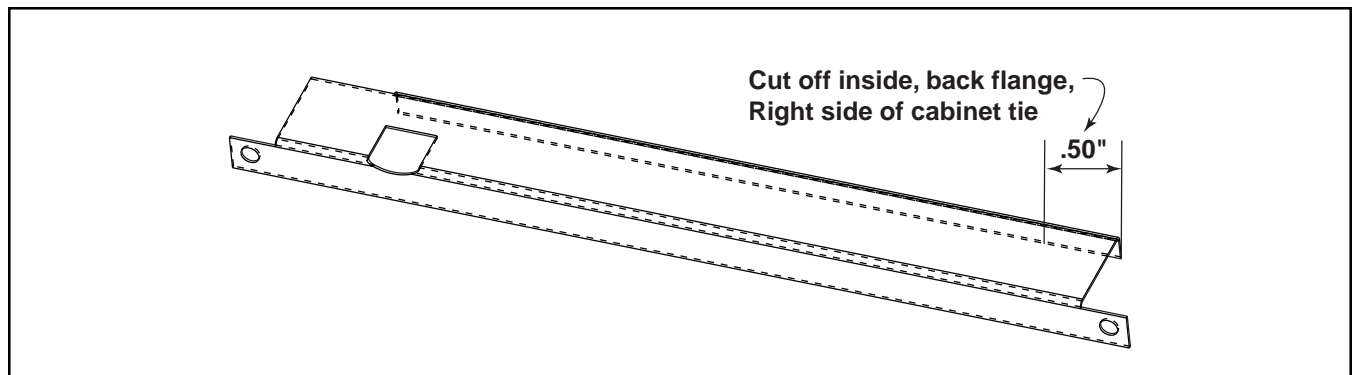

Figure 2. Notch right flange
6. Using a pair of tin snips, notch the front right flange of the cabinet tie. The notch should be 1/2 inch wide and the depth of the 1/4 flange (See Figure 2).